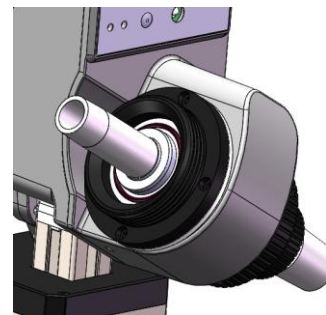
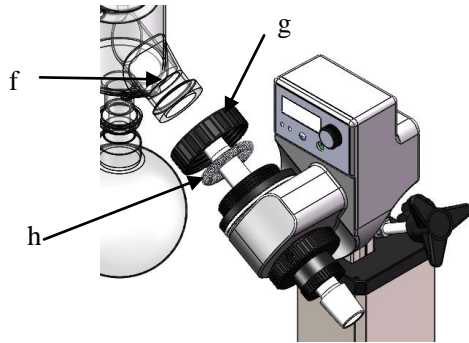

Fig. 15
Fig. 16
- Mount the condenser (f) (Fig. 15 and Fig. 16)